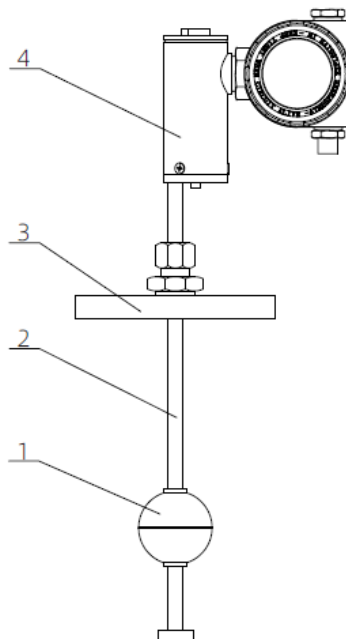

Figure 1 Product Main Structure
### 2.1 Main structure-Figure 1
6.2.1 Top-mounted flange connection type: In order to avoid damage to the probe during shipment, this type of top-mounted flange and level transmitter are packaged separately, and they need to be assembled according to Figure 1 before installation.